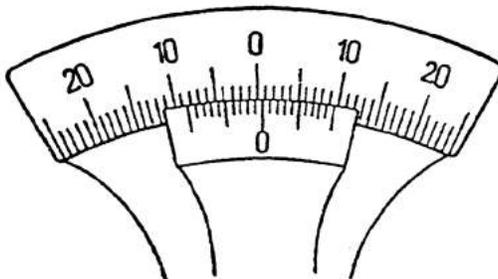

Figure 7.5. Reading the Vernier scale on the polarimeter
6. Read the Vernier scale. Consult your instructor if you are not sure how to do this, although Figure 7.5 may be of assistance.
In Figure 7.5, the zero of the lower scale is between 0 and 1 on the upper scale. This indicates that the reading is between 0% and 1%. We next look to see which line to the right of the zero on the lower scale coincides with a line on the upper scale. In fact, the seventh line on the lower scale coincides with a line on the upper scale, thus the reading is 0.7%.